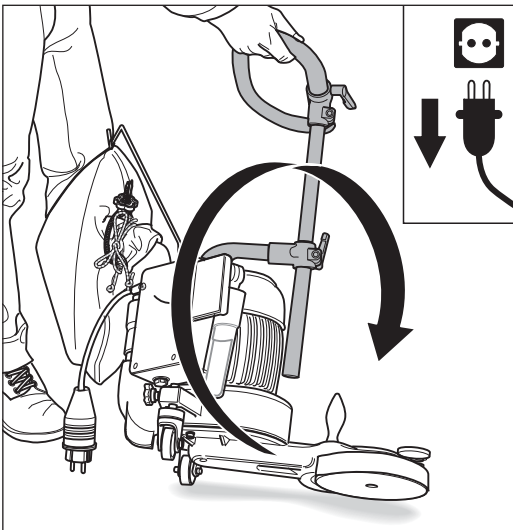

Fig. 61 Tilt the UNICO over to the **left-hand** side and set it down carefully.
- 3 Place the UNICO on its side by grabbing the machine by the handlebar on the right-hand side and then tilt the machine over to the **left-hand** side (Fig. 61) and set it down carefully.